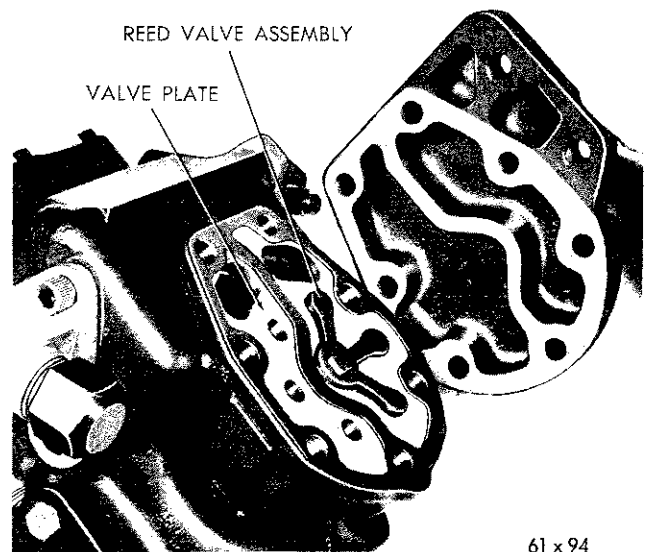

Fig. 37—Valve Plate—Installed Position
(1) The valve plate and the cylinder head must be assembled with the reed assembly, as shown in Figure 37.